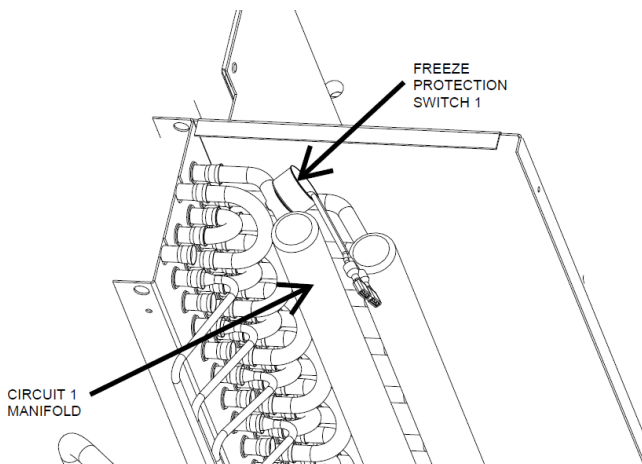

FIGURE 7
- Circuit 1 : Clip the Freeze stat switch to the first manifold tube on Circuit 1 coil. Connect black wires from the switch to the yellow wire quick connects. Switch connections are not polarity sensitive. (Figure 7)